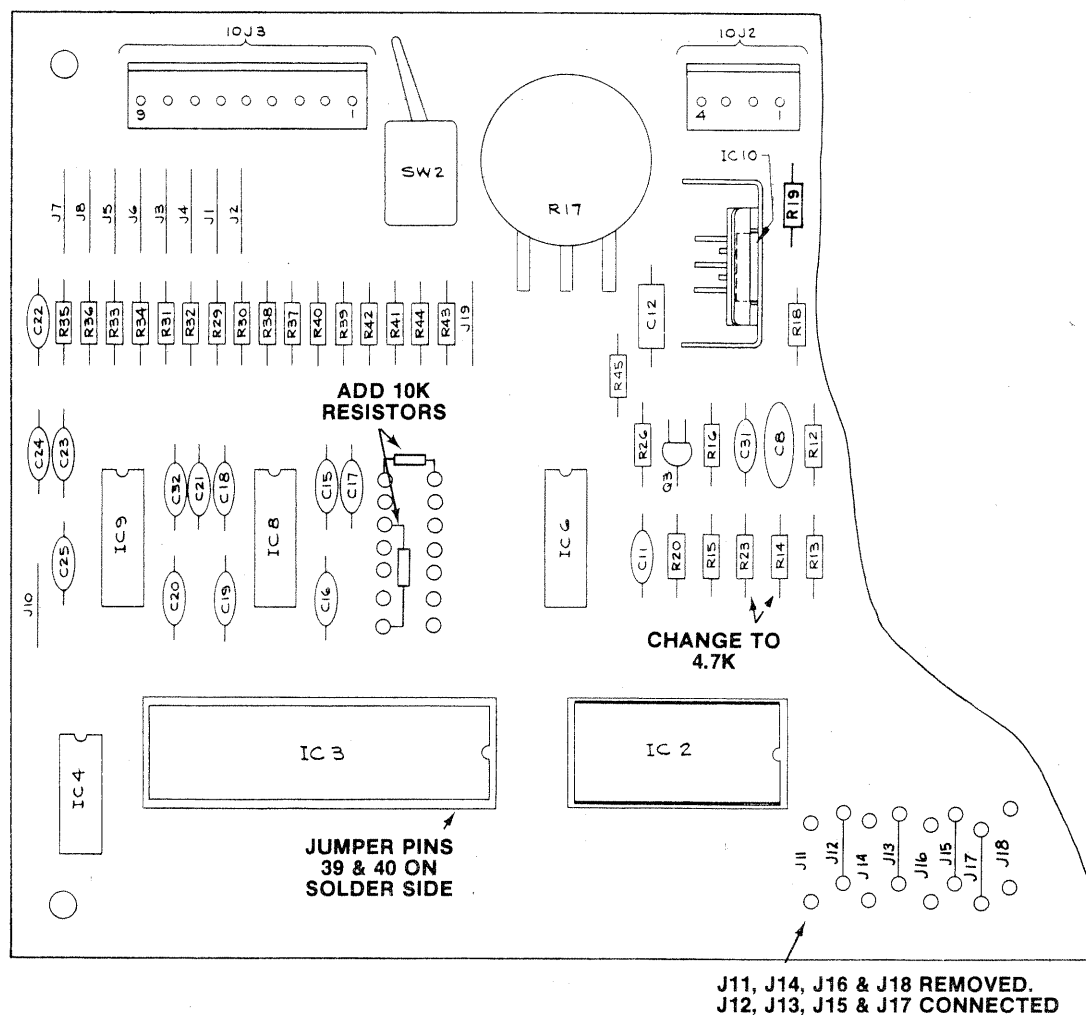

Figure 9. Sound Board Modification and ROM Jumper Details
5. Refer to Figure 9 and check the jumpers on the replacement board. If the replacement board is not jumpered as indicated, remove the four jumpers from the replacement board and connect four new jumpers.
6. Inspect the replacement board. If it is equipped with two fuses or if the modification indicated in Figure 9 have already been made, proceed to step 11.